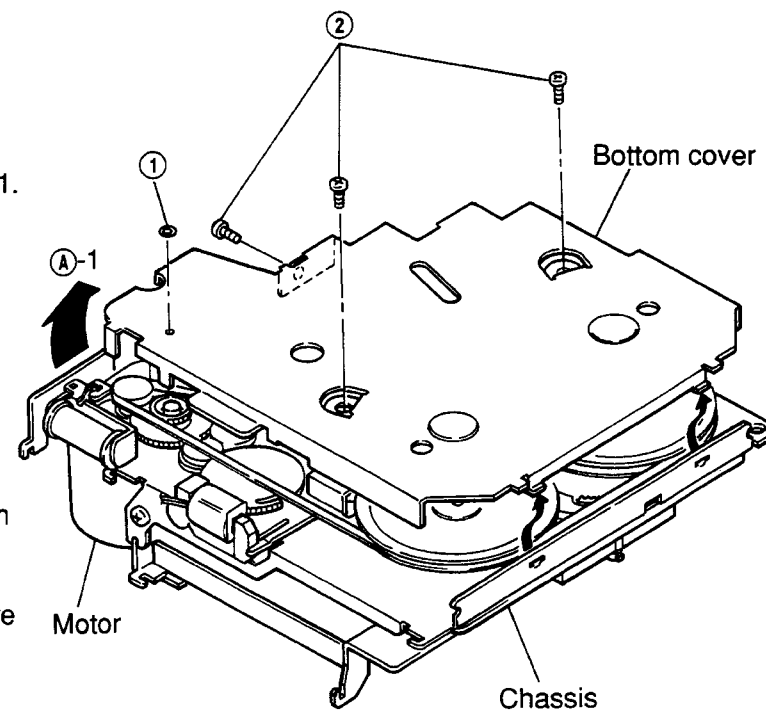

Figure 1
- (1) Turn the mechanism around as shown in Figure 1.
- (2) Remove M1 lock washer ① as shown in Figure 1.
- (3) Remove three screws ② as shown in Figure 1.
- (4) Lift the bottom cover slowly from the position A-1, pull the hooks out of the holes in the chassis, and remove the bottom cover as shown in Figure 1.